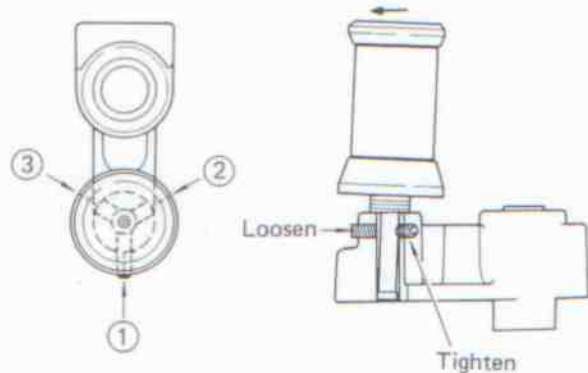

Fig. 2. Tension Roller Azimuth
2. Refer to Fig. 2 and locate the three hex. socket setscrews that hold the tension roller arm shaft.
3. Tighten the setscrew in the direction of which the tension roller tilts while loosening the remaining two setscrews on the opposite side, as shown in Fig. 2.